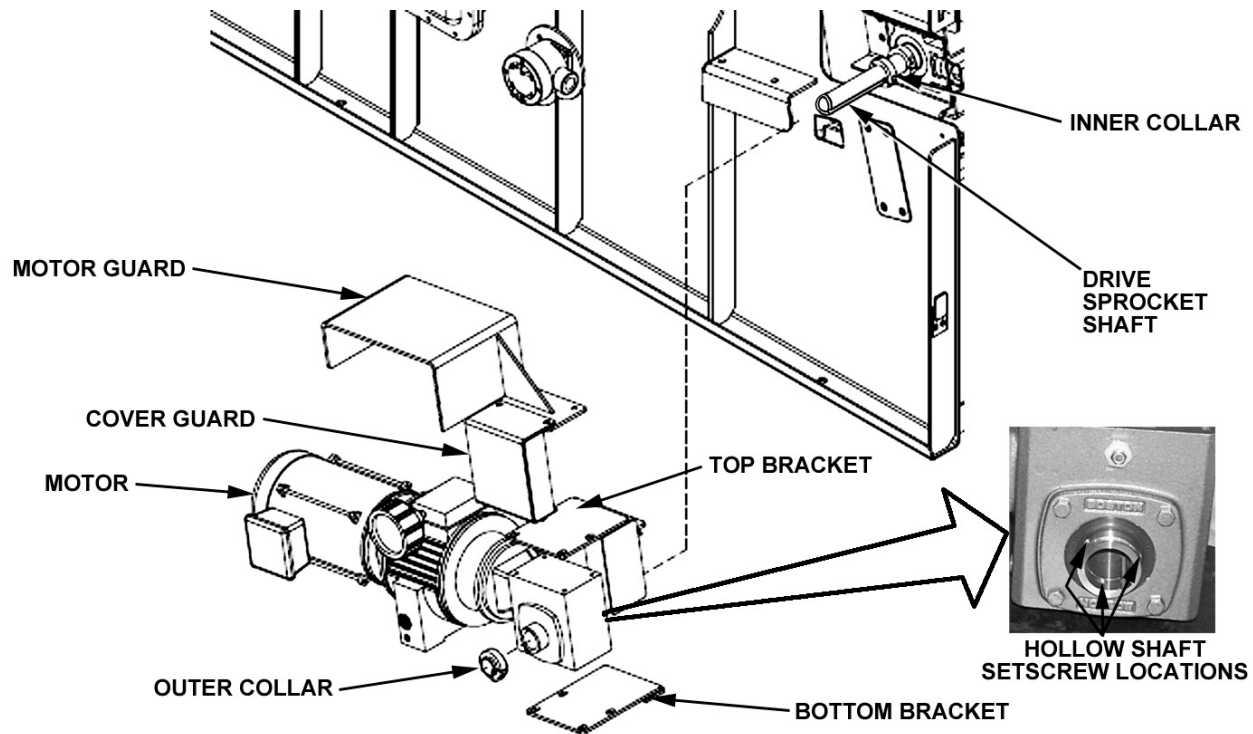

Figure 5-4. Geardrive Assembly Exploded View
3. Remove two bolts securing cover guard to gearbox (Figure 5-4), and remove cover guard.